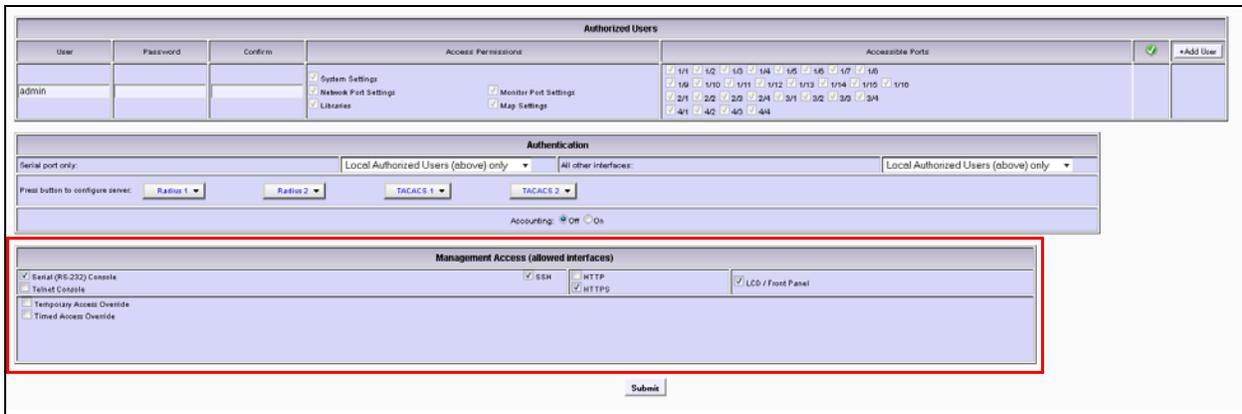

Figure 3.8 - IPB Access Control Page
10. Select Access Control from the main menu. The following page appears (Figure 3.8).